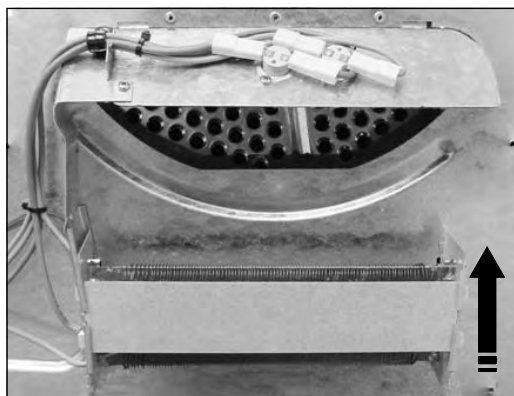
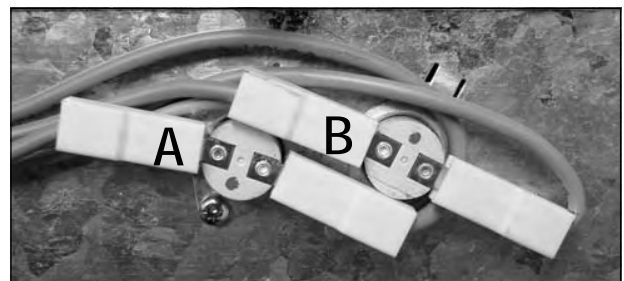

Fig. 7-3
Fig. 7-4
- The Heating Element is held in place using a tab and slot configuration (Fig. 7-3). To remove, release the left and right tabs and then slide the Heating Element up and out of its slot. The Thermostats (Fig. 7-4) are each held in place with two (2) Phillips screws, remove the screws and replace the Thermostat.